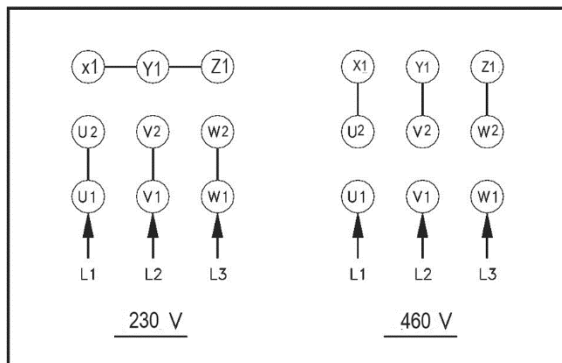

Figure 6-2: oil pump wiring
2. Remove oil pump motor junction box cover, and change incoming leads for oil pump, based on diagram shown in Figure 6-2. Reinstall cover.